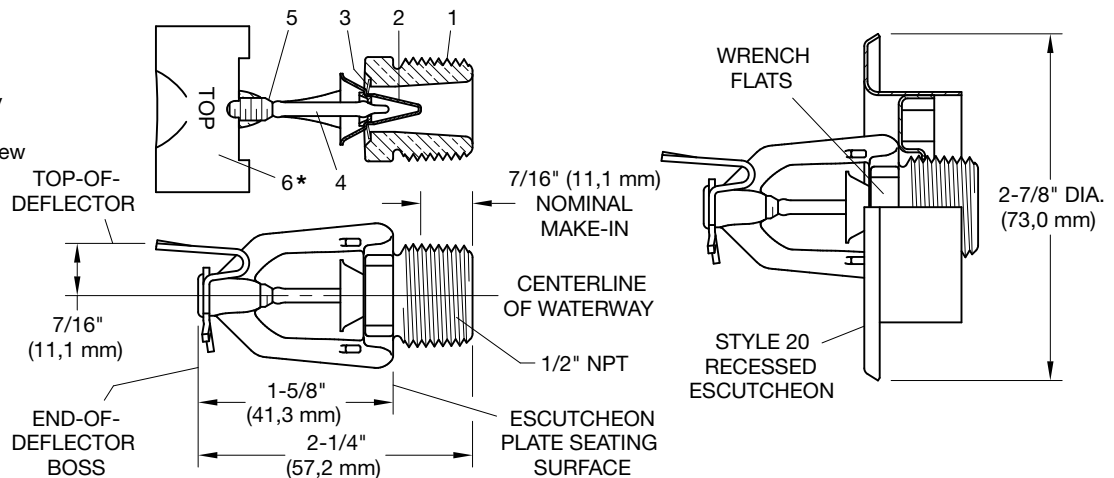
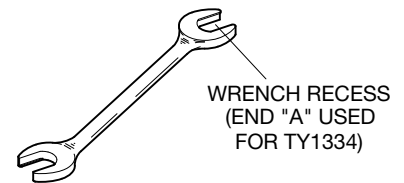

FIGURE 1
FIGURE 3
Step 3. Tighten the sprinkler into the sprinkler fitting using only the W-Type 6 Sprinkler Wrench (Figure 3). With reference to Figure 1, apply the W-Type 6 Sprinkler Wrench to the wrench flats.